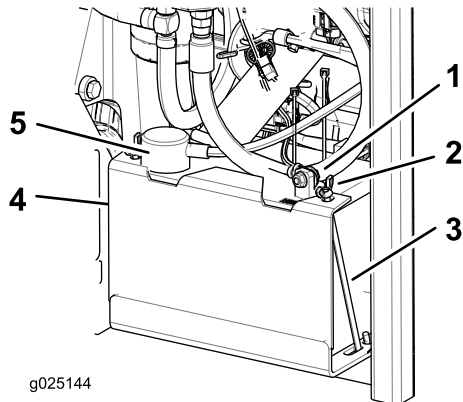

Figure 44
3. Disconnect the negative battery cable (black) from the negative (-) battery terminal (Figure 44).
- Slide the red terminal boot off the positive (red) battery terminal and remove the positive (+) battery cable (Figure 44).
- Remove the wing nuts securing the J-hooks (Figure 44).
- Remove the clamp (Figure 44).
- Position the battery in the tray with the terminal posts opposite from the hydraulic tank (Figure 44).
- Secure the cables with 2 bolts, 2 washers, and 2 locknuts (Figure 44).
- Install the clamp and secure it with the wing nuts and J-hooks (Figure 44).